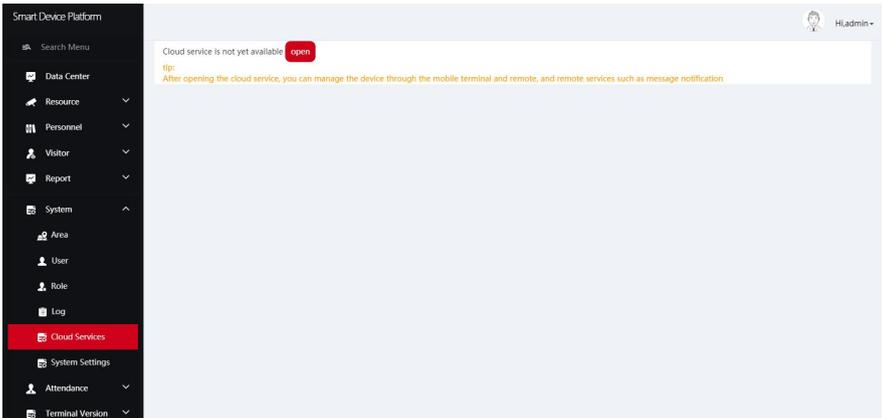

Figure 5-80
Step 1: In the smart device platform interface, click "System→Cloud Services" to enter the cloud service interface, as shown in Figure 5-80 below.